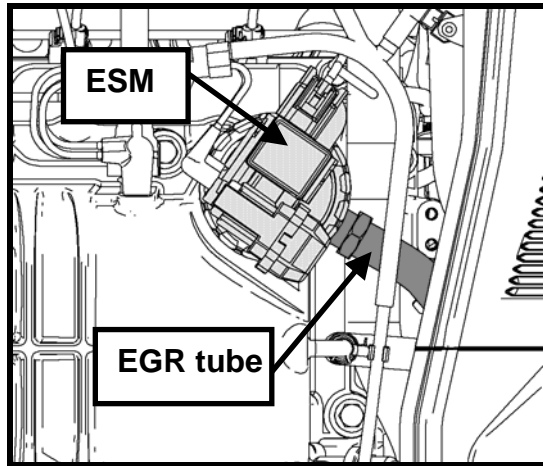
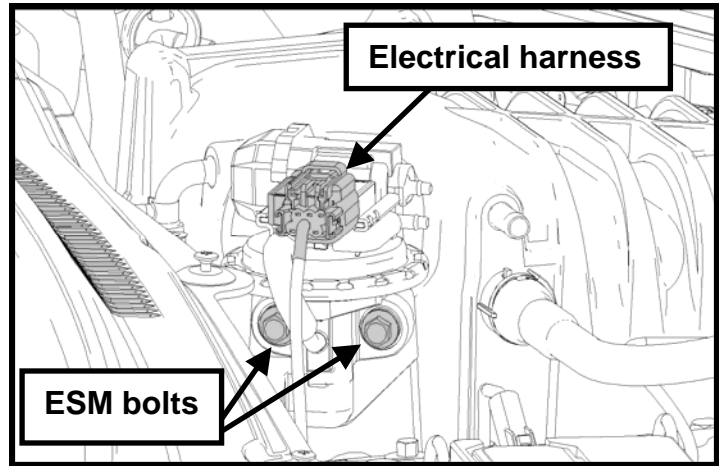

Fig. 9
Fig. 10
STEP 10: Remove the ESM (EGR System Module) electrical connector. Remove the EGR tube nut from the ESM (See Fig. 9). Remove the ESM bolts and assembly from the supercharger (See Fig. 10).